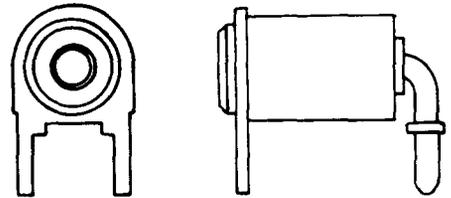

Fig. 6—KS-19286, L1 Through L9, Pin Jacks
2.06 KS-19286, L1 Through L9: The KS-19286, L1 through L9, jacks (Fig. 6) are identical pin jacks of various colors. These jacks are used on J68875M primary frequency supply and L multi-plex in toll systems.